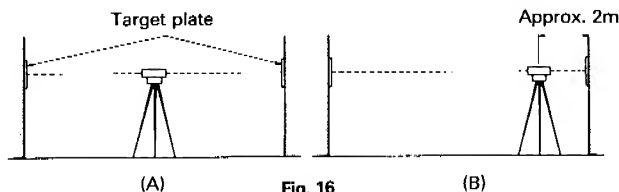

Fig. 16
- ① Prepare two same target plates. Setting up the instrument midway between two walls at a distance of 50 to 100 meters, level it. (Fig. 16(A))
- ② Sighting both walls alternately, adjust the target plates to the height so that readings of the target plates are identical, and secure them in position.
- ③ Move the instrument to a position approx. 2 meters from one target plate and level it. (Fig. 16(B))
- ④ Read both target plates.
- ⑤ No adjustment is necessary if readings of both target plates are identical.